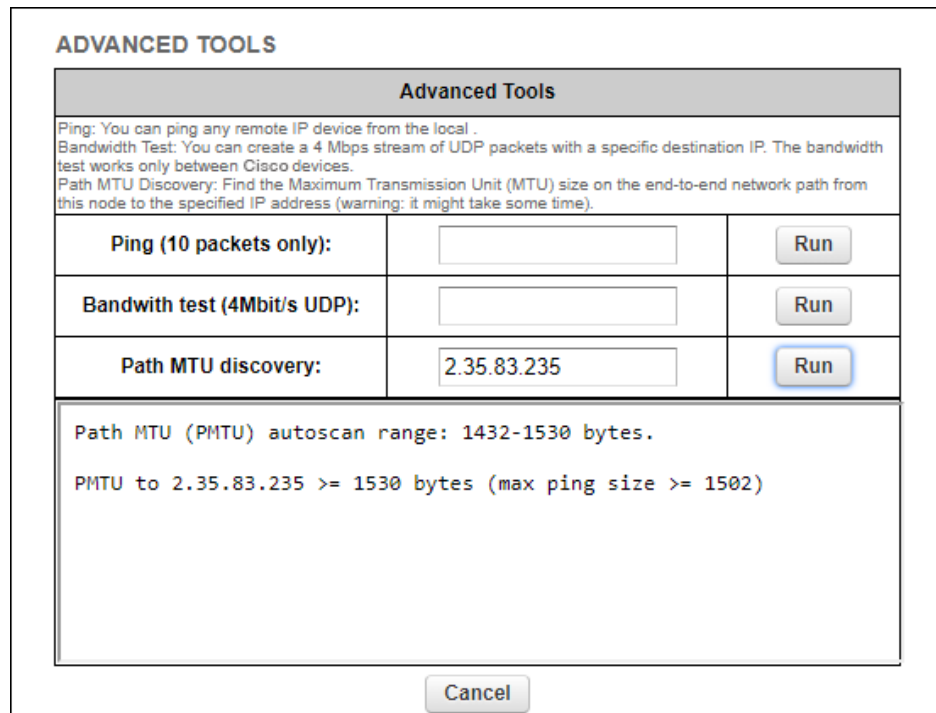

Figure 33. Advanced Tools window (Path MTU test tool)
2. Enter the IP address of the second unit in the **Path MTU discovery** field (Figure 33 \(page 92\)).